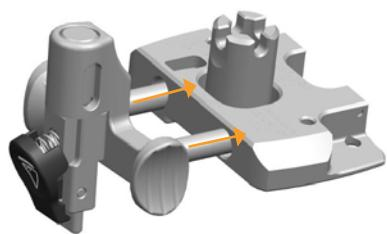

Figure 67
1. Insert the Fixed Valgus Bridge into the appropriate, handed JOURNEY Kinematic Alignment Valgus Guide (**Figure 67**).